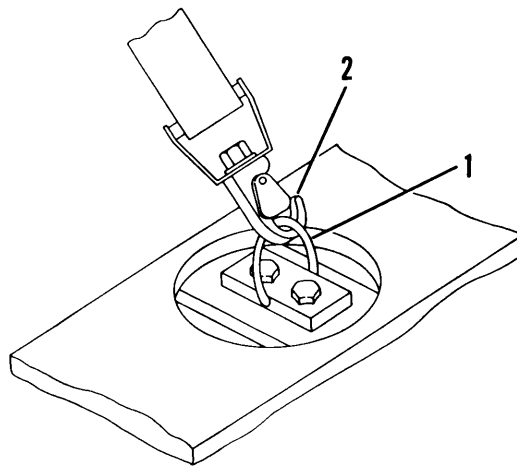

Figure 2-11. Fixed Tiedown Anchor
b. The tiedown anchor (1, fig. 2-11) is rotated upwards for attachment of web straps or chain/binder.
c. Hook (2) of web strap, chain or binder.